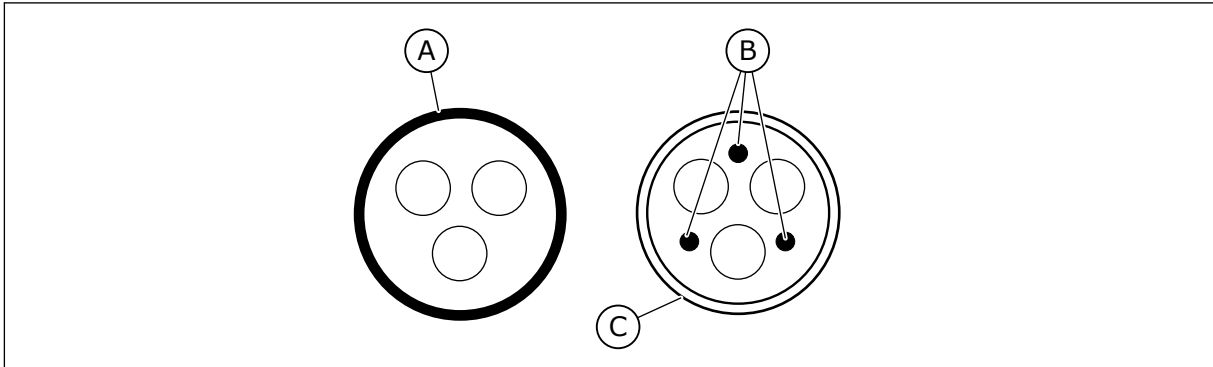

Fig. 36: Cables with PE conductors
2. A symmetrical power cable with a concentric protection wire. A cable for the specified mains voltage. We recommend an MCMK cable. See *Fig. 36*.
3. A symmetrical power cable with a compact low-impedance shield. A cable for the specified mains voltage. We recommend an MCCMK, or an EMCMK cable. We recommend that the cable transfer impedance [1...30MHz] is a maximum of 100 mΩ/m. See *Fig. 36*. * = For the EMC level C2, it is necessary to have a 360° grounding of the shield with cable glands in the motor end.